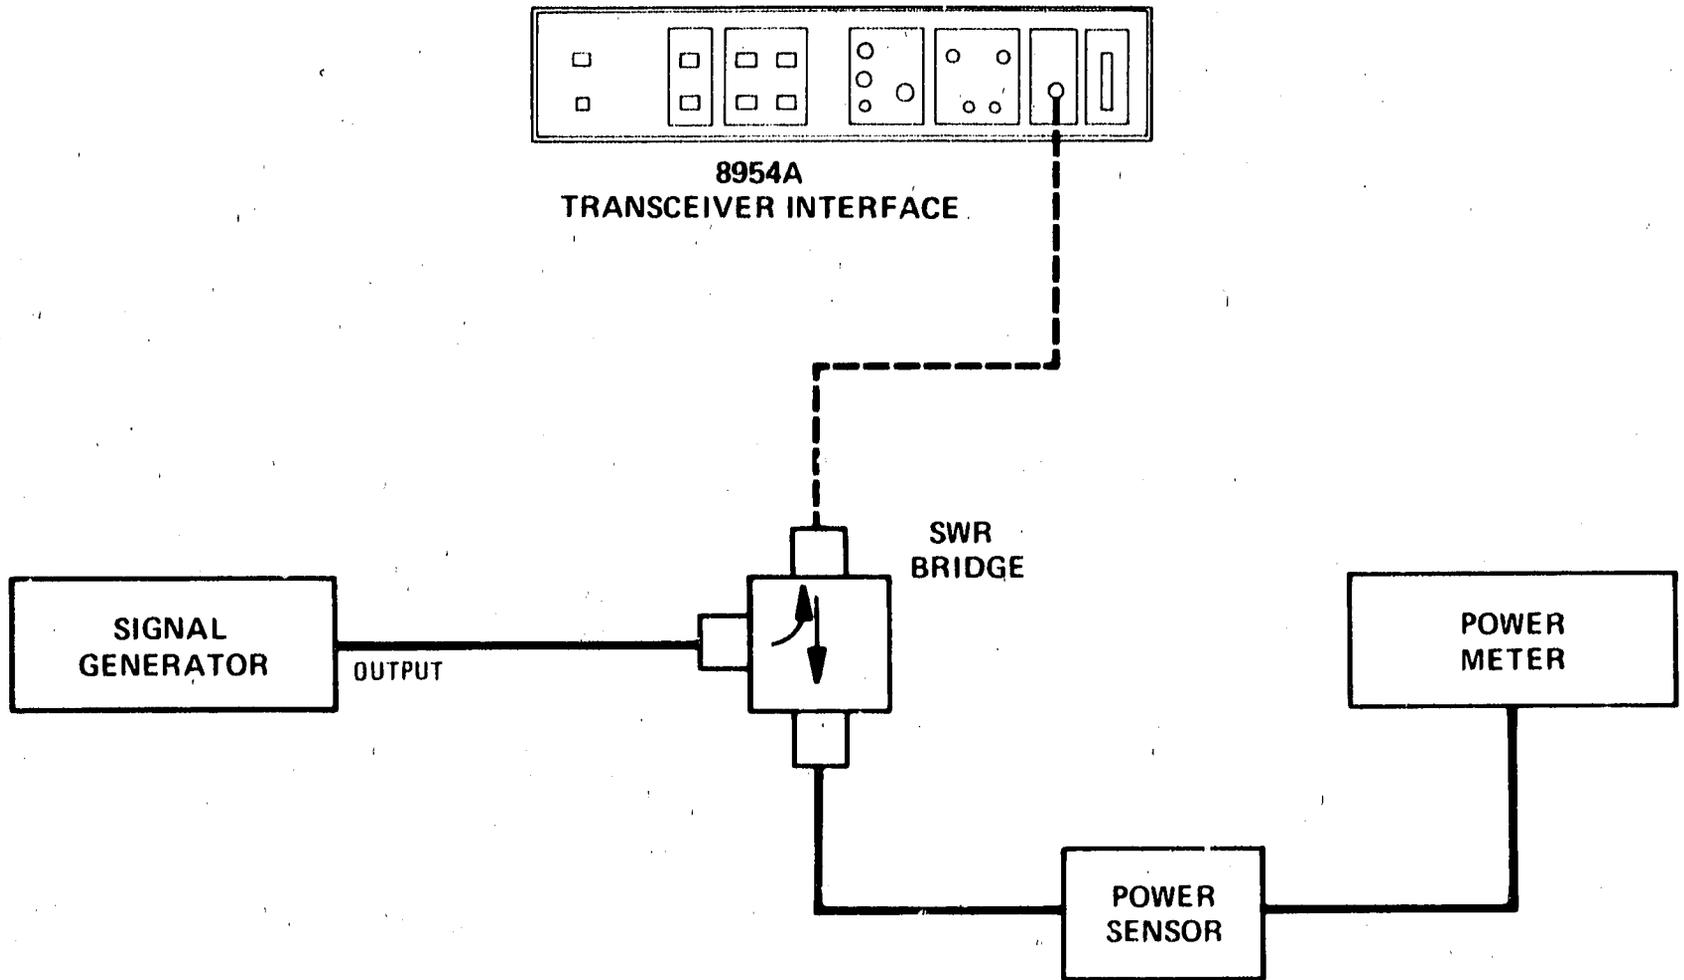

Figure 4-1. SWR Performance Test Setup
4. Connect the equipment as shown in Figure 4-1. Connect the SWR bridge to the RF port on the Transceiver Interface and select RF MONITOR 1. Terminate the RF MONITOR 1 port with 50 ohms.
11. Connect the equipment as shown in Figure 4-1. Connect the SWR bridge to the RF port on the Transceiver Interface, select RF MONITOR 2 and then terminate RF MONITOR 2 with 50 ohms. Repeat steps 5 through 9.